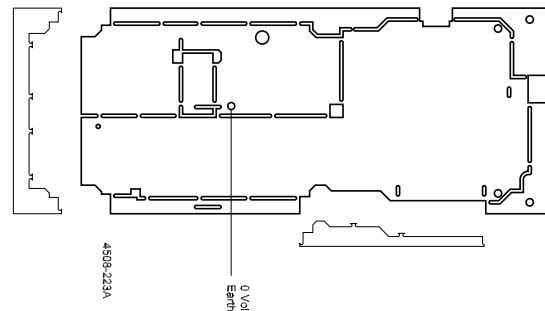

Figure 3.16: Control Board Biscuit
- 2) The replacement Control board will be in biscuit format (i.e. it will have to be trimmed to the same size as the existing board size as per figure 3.16). This is done with a fine pair of side cutters cutting as close to the Control board as possible.